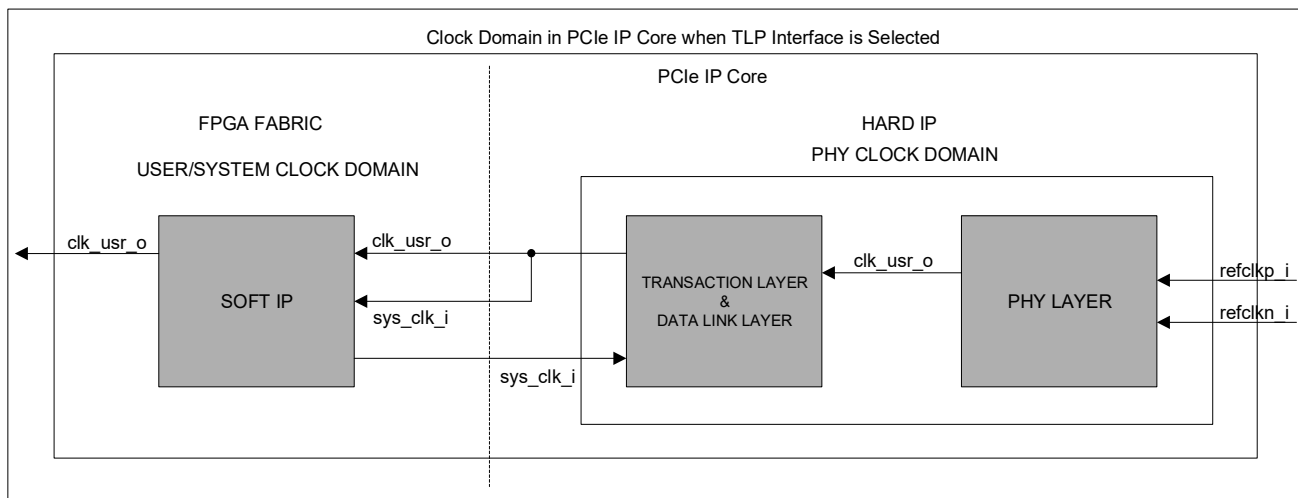

Figure 2.3. PCIe IP Clock Domain Block Diagram for TLP Interface
The PCIe x4 IP includes the following clock domains. The *sys\_clk\_i* and *clk\_usr\_div2\_i* signals are generated during the PLL IP instantiation. For the TLP interface, you can connect *clk\_usr\_o* back to the *sys\_clk\_i*, as shown in Figure 2.3.
- For the TLP interface variants, you can choose to connect *clk\_usr\_o* back to the *sys\_clk\_i* as shown in Figure 2.3.